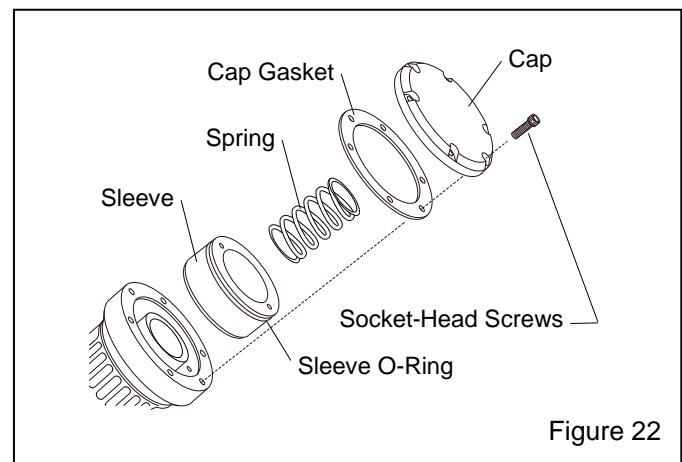

Figure 22
**6.3.2.7** Refer to Figure 22 and place the O-ring on the cylinder sleeve, and insert the sleeve (O-ring end up) into the body. Make sure the open side of the upper (small) U-seal does not fold back during assembly, the sleeve is chamfered to make assembly easier.